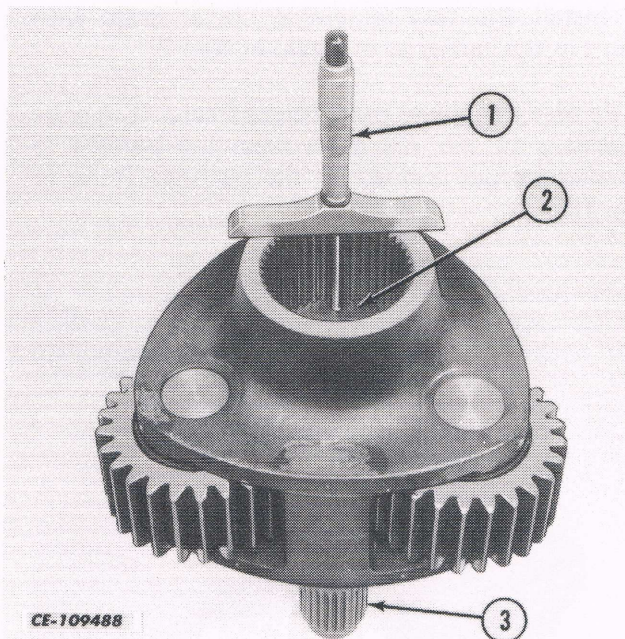

Fig. 14
15. Using the planetary drive shaft, support the spacer in the planet carrier assembly to obtain the hub to spacer dimension using a depth micrometer as shown in Fig. 14. Record the reading.